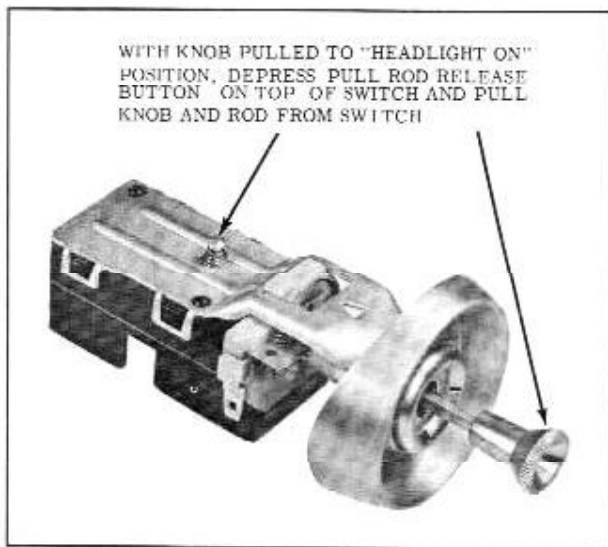

Fig. 13-77 Headlamp Switch Removal
2. Remove knob and rod by first pulling knob out to the headlamp "ON" position, then depress pull rod release button on the side of the switch assembly and pull the rod out. (Fig. 13-77)